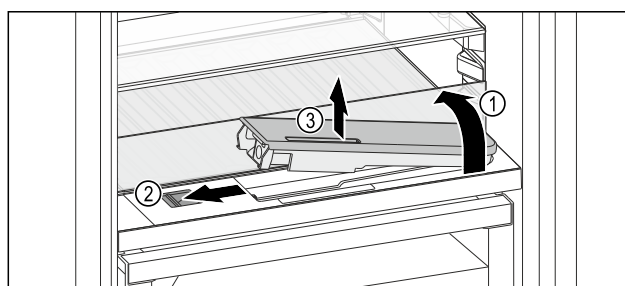

Fig. 165
- ▶ Lift the glass panel and fold towards the rear until it clicks into place *Fig. 165 (1)*.
- ▶ Slide the slider *Fig. 165 (2)* to the left.
- ▶ Remove the water tank *Fig. 165 (3)*.